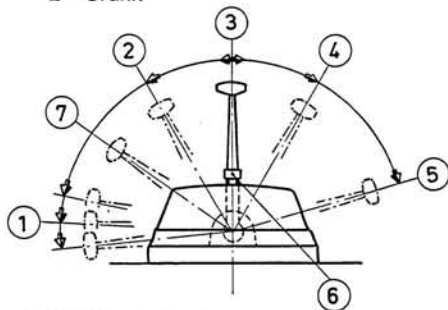

Fig. 8 Teleflex controls
- 2 Place the control lever in neutral. Disengage the control lever with the disengaging latch so that only the engine speed is operated. Set the control lever to $\frac{1}{4}$ max. throttle. See Fig. 8.
The ALBIN AD-21 is fitted with a spring-loaded type reverse gear which requires little operating effort so that it is possible to install a so-called combined speed-gear control lever. With this type of control, both the reverse gear and engine speed are operated by means of a single control lever (see Fig. 8).